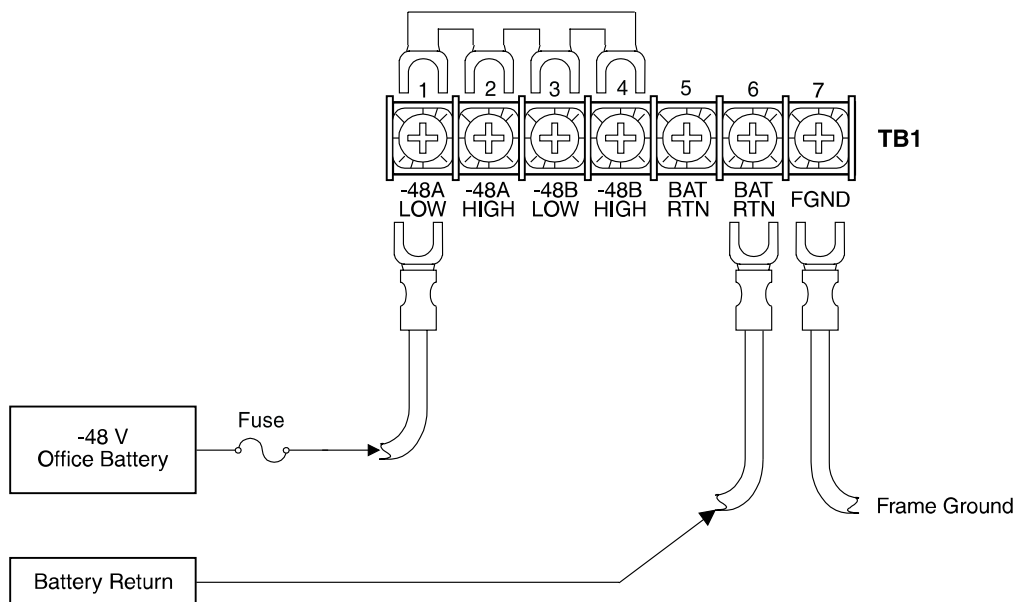

Figure 9. Single Source Power Wiring
- 2 Connect a wire from the -48 A-LOW terminal at TB1 (Figure 9) to the CO battery supply at the fuse panel.
- 4 The four-position jumper from the -48 A-LOW terminal of TB1 to the -48 B-HIGH terminal of TB1 should be installed as shown in Figure 9.